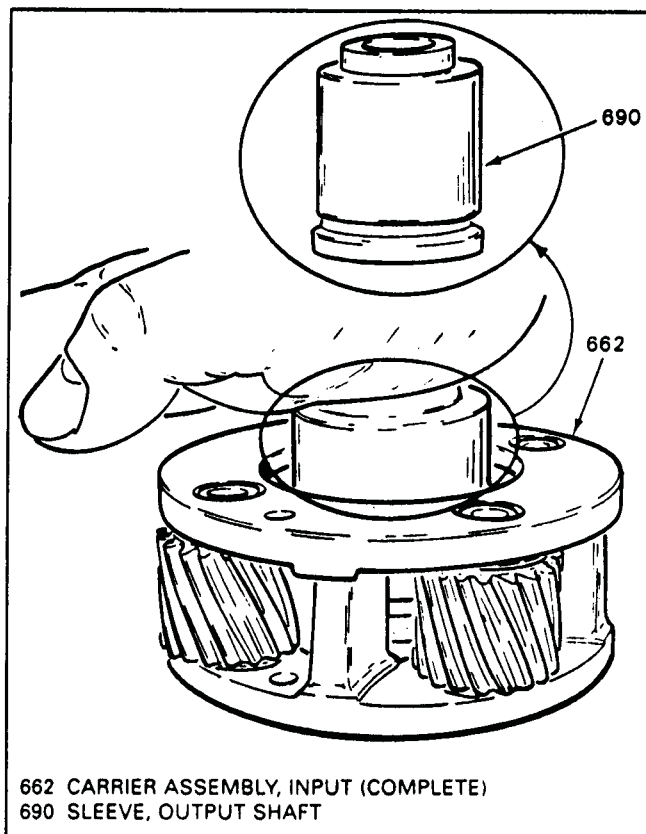

Figure 66
3. Inspect the trapped bearings in the carriers by placing a bushing or output shaft sleeve on the bearing race (Do not contact pinion gears), and turn it with the palm of your hand. Any imperfections will be felt through the sleeve (See Figure 66).